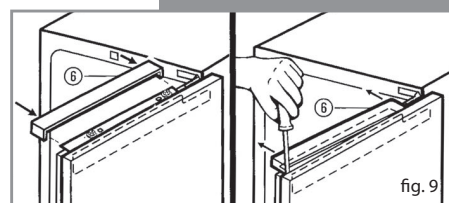

fig. 9
- Push on cover trim (6) and engage (to remove, lever out the trim strip with a screwdriver as illustrated in figure 9).